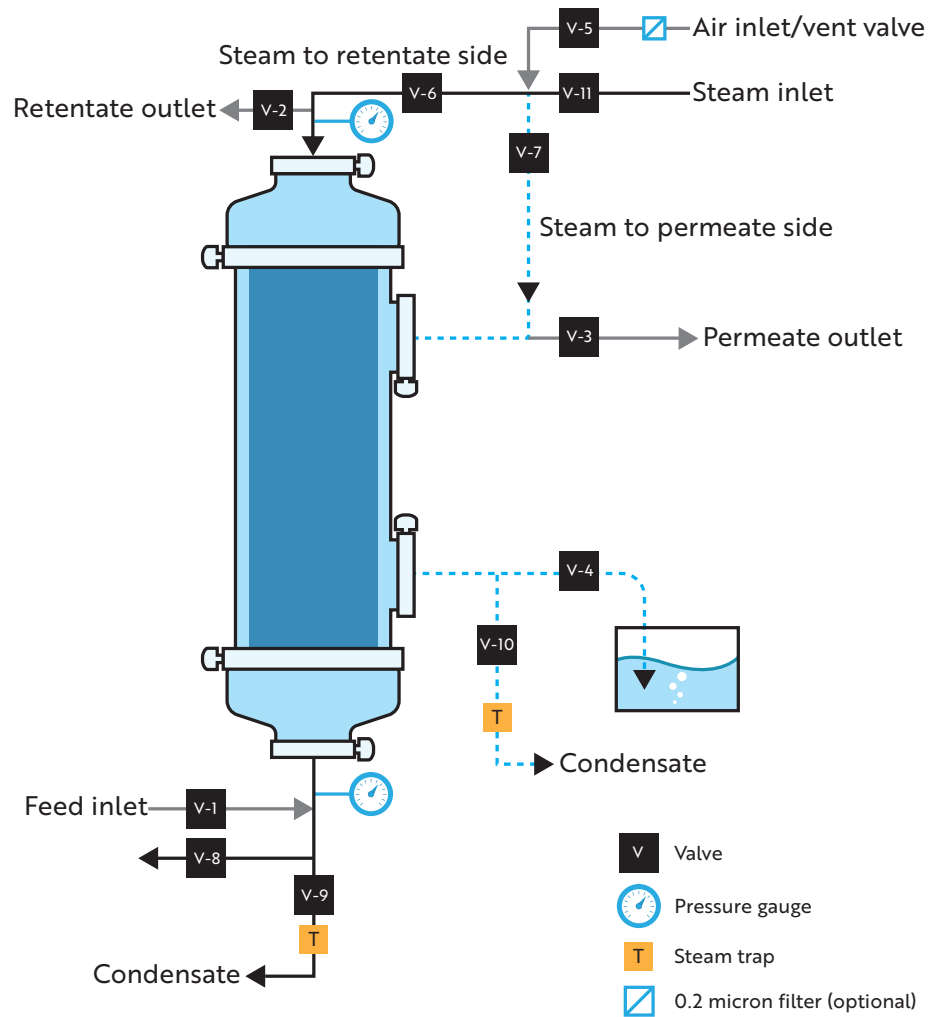

Figure 13: Typical configuration for integrity testing SepraPor® post-SIP.
16. Integrity test the filter post-sterilization is optional but recommended and sometimes required in critical applications. If performing an integrity test, close all valves except the air inlet/vent valve (V5), retentate steam inlet valve (V6), and permeate steam trap bypass valve (V4). See Figure 13.